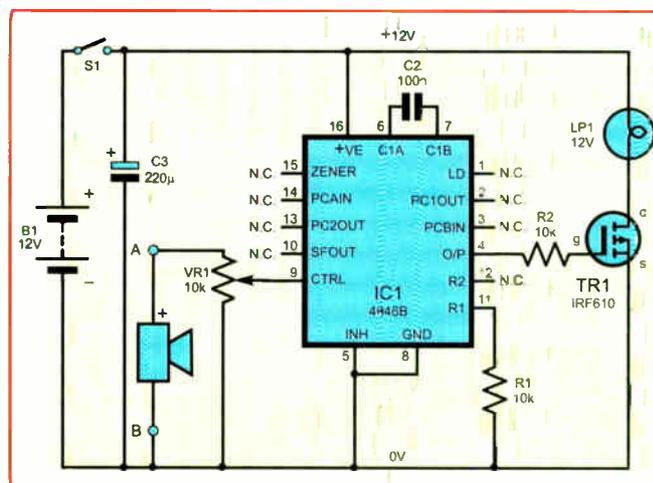

Fig.1 Complete circuit diagram for the 'poor man's' Disco Light
**T**HE circuit of Fig.1 might be described as a 'Poor Man's Disco Light'. Arguably it is the simplest such circuit that could be conceived. It conveniently attaches directly to the loudspeaker cables of one's power amplifier – provided that the output is above about two watts RMS, which is required for it to 'fire up' (if desired, the sensitivity of the circuit may be greatly increased with a simple pre-amplifier stage with a gain of about five, as covered in the *Teach-In 2006* series).